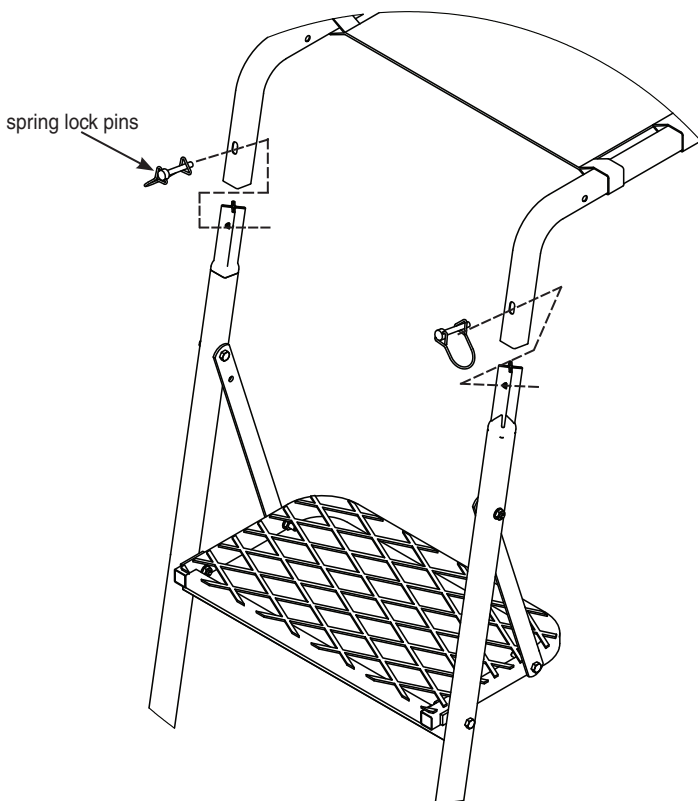

FIGURE 3
6. With all sections assembled together on ground, secure all sections together using (8) provided spring lock pins. Handle of spring lock pin must be put to the outside of ladder side rails. **SEE FIGURE 3.**